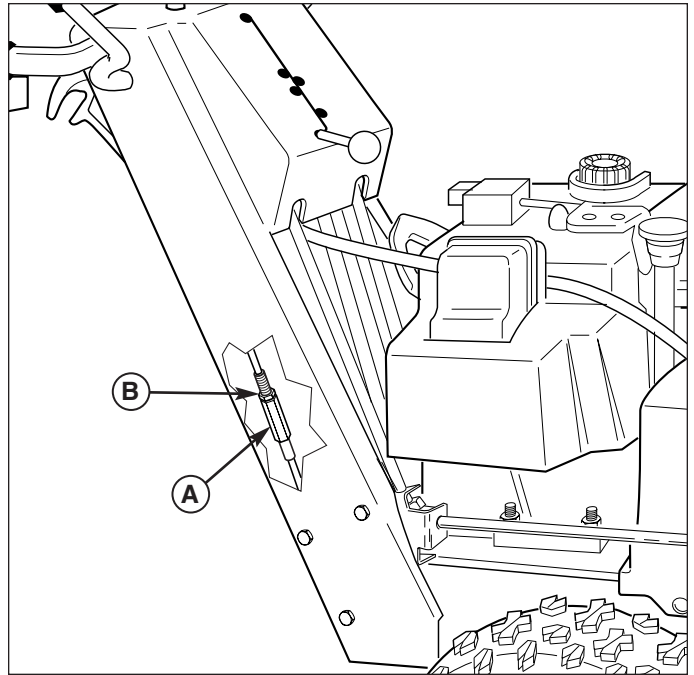

Figure 26. Cable Adjustment
2. Loosen the jam nut (B, Figure 26).
3. Turn the adjustment nut (A) to lengthen or shorten the cable. The cable should be tightened just until all slack is removed from the lever, however it must not engage the Easy Turn™ release without depressing the control lever.